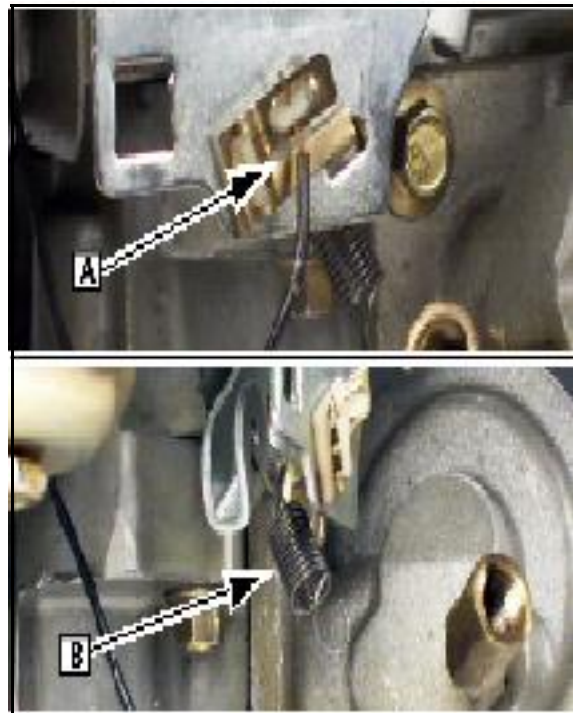

Fig. 11
11. Disconnect stop switch wire ([A] and return spring ([B] Fig. 11) from governor lever.
4. Reinstall stop switch wire and governor lever return spring (Refer to Fig. 11).